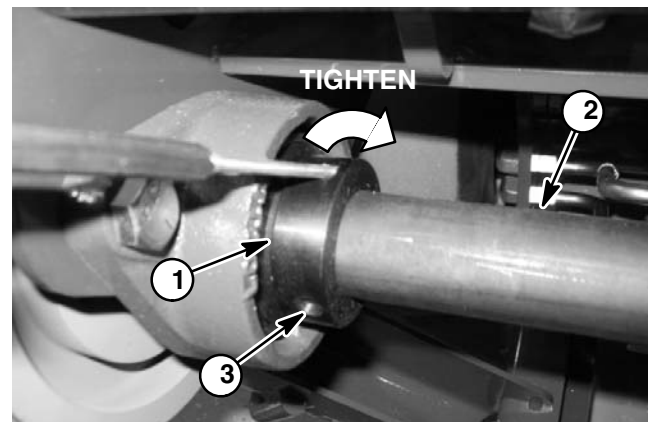

Figure 20
5. Align taper lock bushing in primary pulley flush with end of jackshaft and secure with set screw. Tighten three (3) cap screws to a torque from 180 to 200 in-lb (20.3 to 22.6 N-m) in three equal steps and in a circular pattern to secure primary pulley and taper lock bushing.
7. Using the blind hole in flange mount bearing locking collars as a striking point, lock collars to jackshaft by rotating the collars with a punch in the direction of jackshaft rotation (Fig. 20). Tighten set screw (item 11) to secure each bearing locking collar to jackshaft.